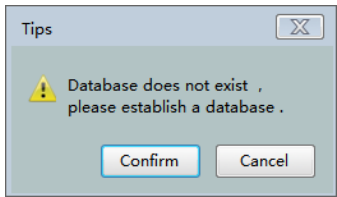
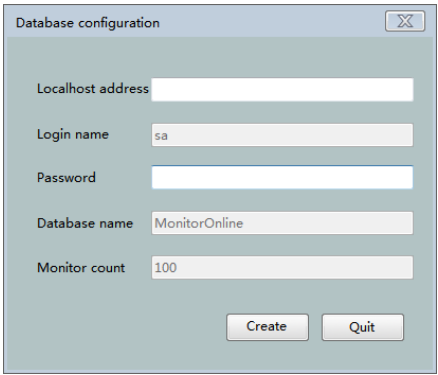

Fig.2.5 Tips
Fig.2.6 Database Configuration
Step 2: Input MNU IP address (IP address of NMU card), Localhost address (Computer IP of installing database), Login name (Default as “sa”) and Login password (password set when installing the database) of database, and click “confirm” button In Fig.2.4. If the database is existent and the connection is successful, then user can log in to the system. If the database does not exist and the connection is unsuccessful, the interface of establishing a database will pop up (see Fig.2.6).
Step 3: Please click **“Confirm”** button in Fig.2.5, then the interface of database configuration will pop up as shown in Fig.2.6.
Step 4: Input Localhost address (Computer IP of installing database) and Login password (password set when installing the database) of database, and click **“Create”** button In Fig.2.6 to create database, after creating database, the interface of **“Submit success”** will pop up, and click **“OK”** button, then the database connection interface will pop up as shown in Fig.2.4. The other steps are same with Step 2, complete the database connection and user login operation, you can log in the system.